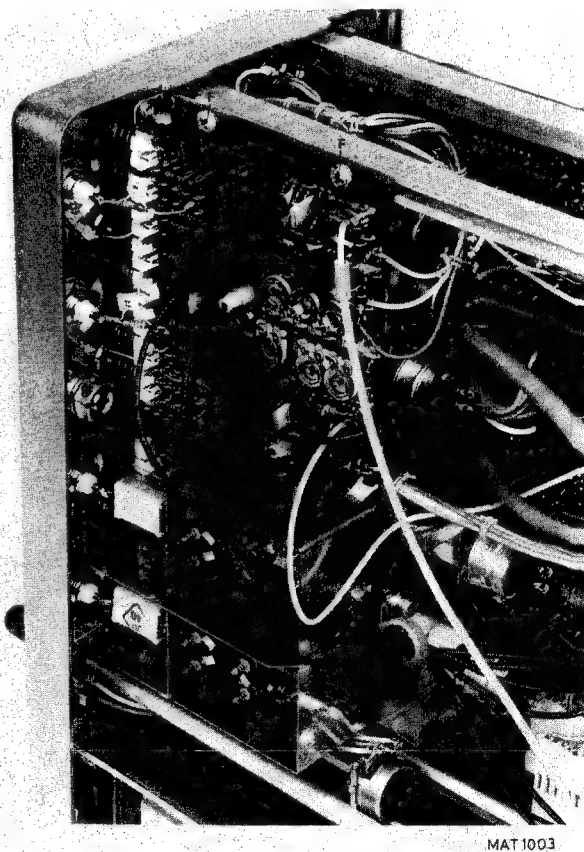

Fig. 6.8.
- Remove the two screws F that hold the attenuator to the frame bar (Fig. 6.8.).